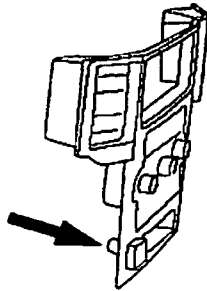

Figure 4
- 3) If fuse is not located in interior, you can access "cold" side of fuse by splicing the 12V wire running in back of the Power Socket. See Figure 4.